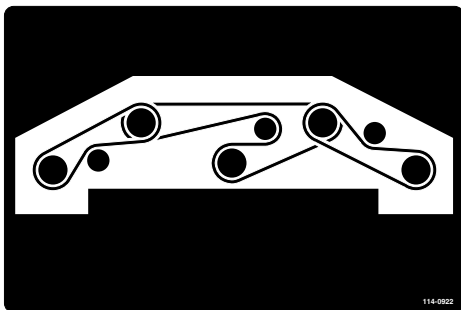

Figure 83
6. Route the new belt around the spindle pulleys and idler pulley assembly as shown in Figure 83.